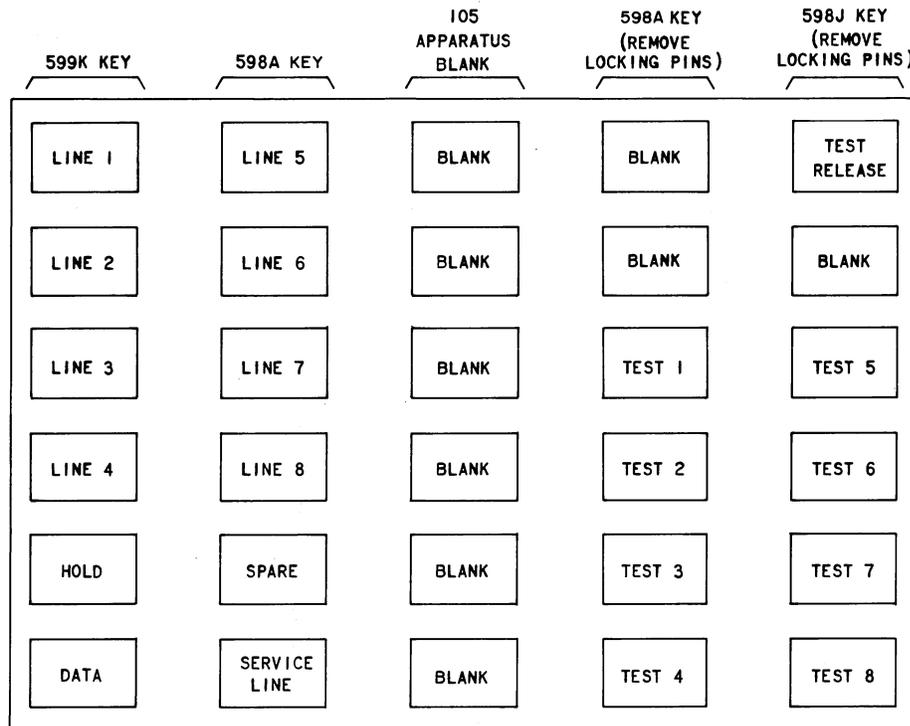

Fig. 11 — Keyboard Arrangement of 30 Button Call Director Telephone Set for Return-to-Data Feature
5.05 Connect the modified CALL DIRECTOR in accordance with Table K and Fig. 11 and 12.